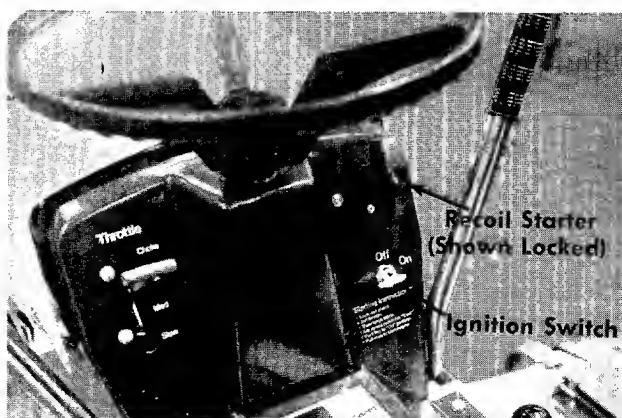

FIGURE 10. RECOIL STARTER
f. Clutch Lockout. When the clutch pedal is depressed all the way it can be locked by placing the clutch lockout in the START position as shown in figure 10. The clutch locknut must be in this position before the engine will start.
Recoil Model. See figure 10. Turn the key to the ON position when starting the engine. To stop the engine turn the key to the left to the OFF position and remove the key to prevent accidental starting.
start. After the engine starts, the recoil starter handle must be returned and locked into the dashboard before the blades or clutch are engaged. The engine will stop if you do not follow these instructions. See figure 10.